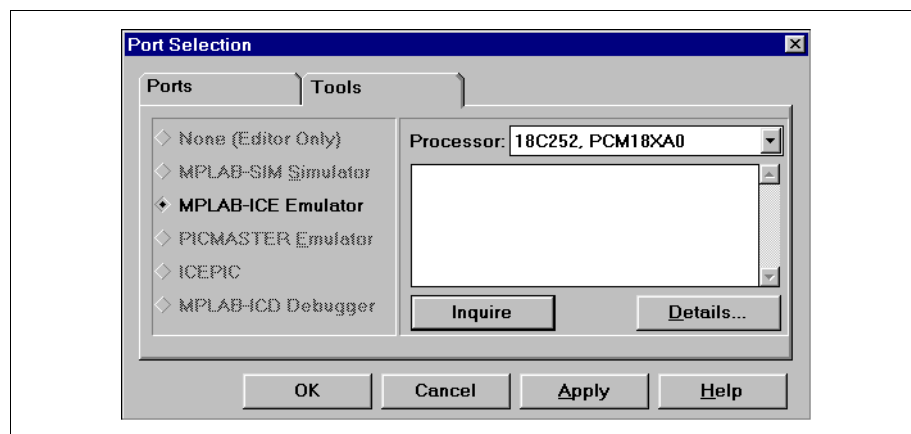

Figure 7.6: Port Selection Dialog - Tools Tab
- Tools – Set the tool to verify (Figure 7.6).